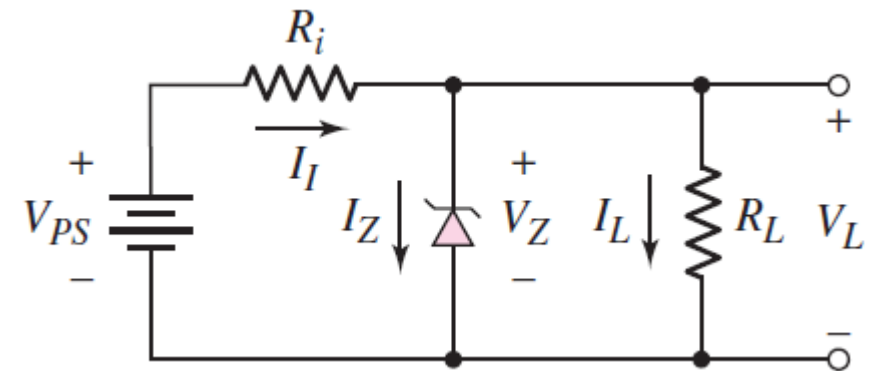

Figure 2.16 A Zener diode voltage regulator circuit
- Figure 2.16 shows a Zener voltage regulator circuit.